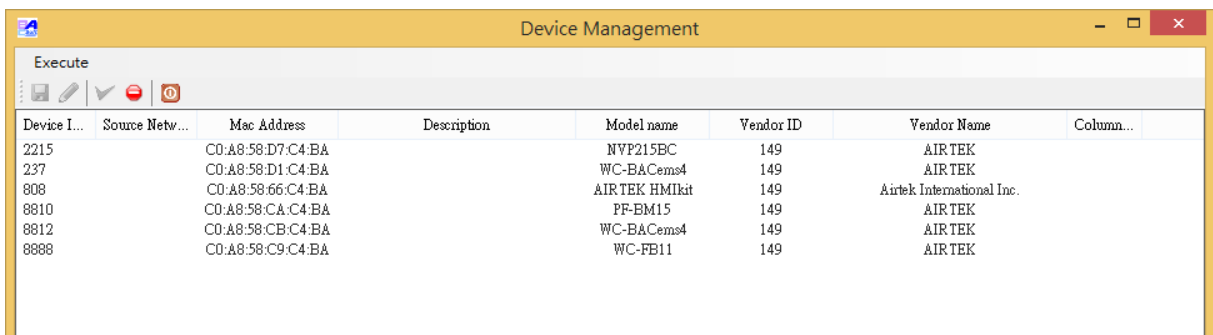

Figure 3-4 Device scan results and device related information
- After entering the device inspection window, click the "start inspection" icon, it will start looking for all the devices in the system, the device inspection window will show the current search device number range and progress. To stop the inspection, click the "Stop inspection" icon to stop the inspection. During the inspection process, BACsoft will be the system to find the device and its related information listed, as shown in Figure 3-4. The information include Device 『Description』、 『Model name』、 『Vendor name』、 『Vendor identifier』